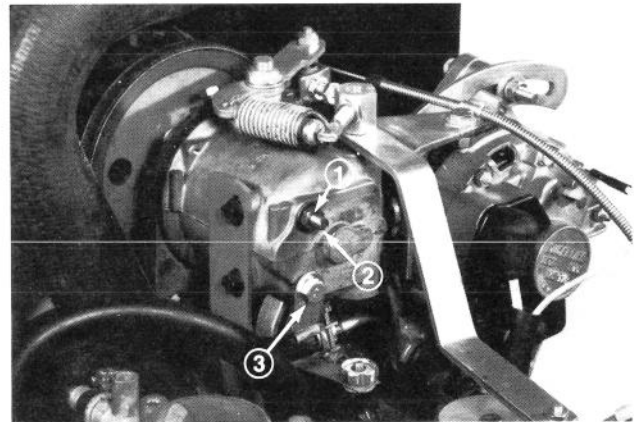

Figure 42
5. Check V-belts from engine to governor pulley and crank shaft to water pump and assure they are tight. If belts are loose, the engine will surge. If belts are tensioned properly, loosen jam nut that retains the anti-surge screw (Fig. 42). Rotate screw clockwise 1/8 turn at a time until surging stops. Should governor continue to surge, check the following:
2. Disengage hood latch and open the hood. Remove check plug (Fig. 42). Level of oil must be up to bottom of filler hole. If level of oil is low, add same oil — SAE 5W-30 or 10W-40 — that is being used in the engine crankcase. When oil is at point of overflowing out of check plug hole, install the check plug.